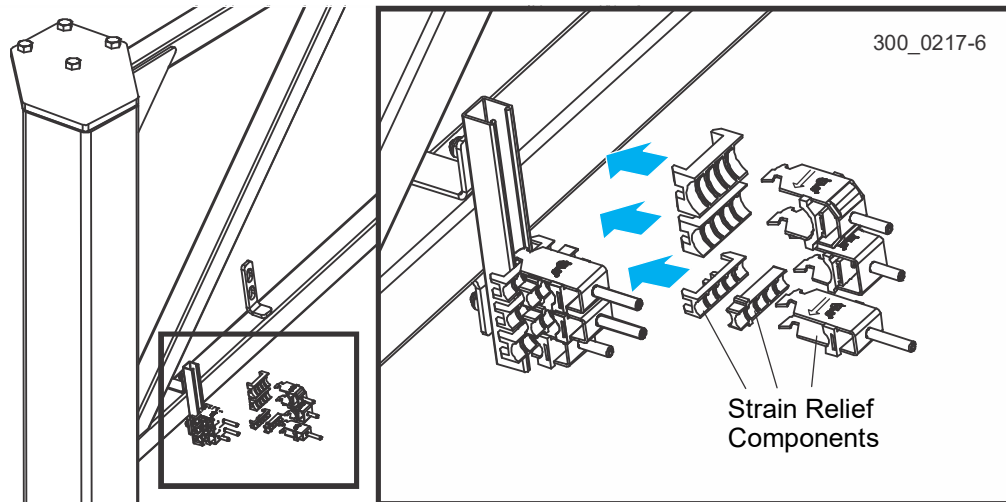

FIG. 3-11
11. Assemble the strain relief components to the strain relief brackets. (See Figure 3-11.)